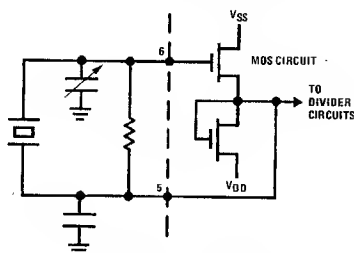

FIGURE 2. Crystal Oscillator
**Crystal Oscillator:** A quartz crystal, resonant at 2.097152 MHz, two capacitors and one resistor, together with the internal MOS circuits form a crystal-controlled oscillator as shown in *Figure 2*. Varying one of the capacitors allows precise frequency setting. For test purposes, Osc. 1 is the input and Osc. 2 is the output of an inverting amplifier.